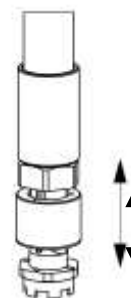

Fig. 7
- Check the upward mobility of float (Fig. 7).